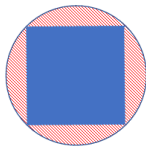

Figure 1: A square enclosed by a circle.
- 1.1 With reference to Figure 1 below. With the show of calculations, If the perimeter of the square element is 8 cm, then the area hedged in red equals to
- 1.2 Assume a force of 13 kN is exerted normal to the surface area of the square element shown in figure 1 above. With the show of calculations, the normal stress acting on the square element is